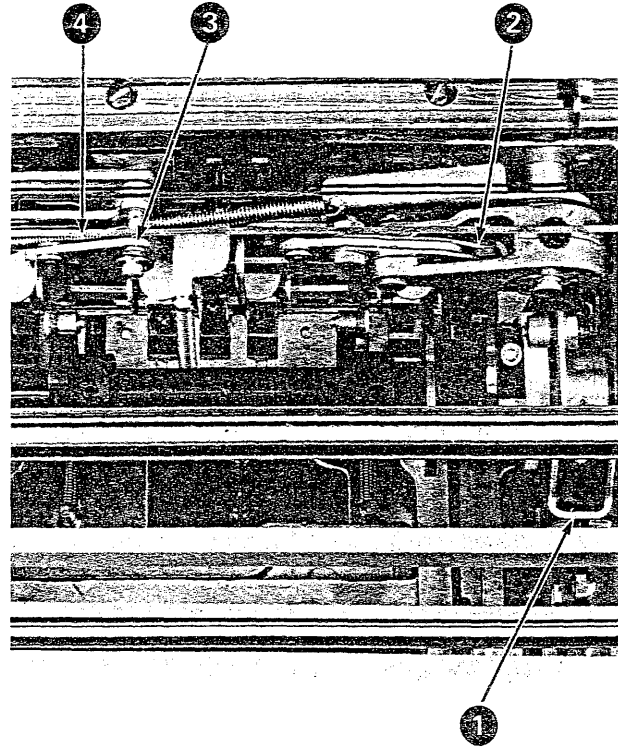

Figure 4-32. Differential-Plate Removal (Steps 17-21)
17. Remove the cycle-clutch-latch bracket (No. 1, Figure 4-32).
18. Remove the C-clip from the negative-latch link (No. 2, Figure 4-32).
19. Remove the C-clip from the tilt-link stud (No. 3, Figure 4-32).
20. Remove the rotate-arm spring (No. 4, Figure 4-32).
21. Detach the check-latch clevis (No. 5, Figure 4-32).